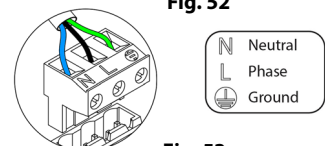

Fig. 53
It is connected to the module through a 3-pin terminal ①. Attach the wires with the terminal screws following the color code (Fig. 53).